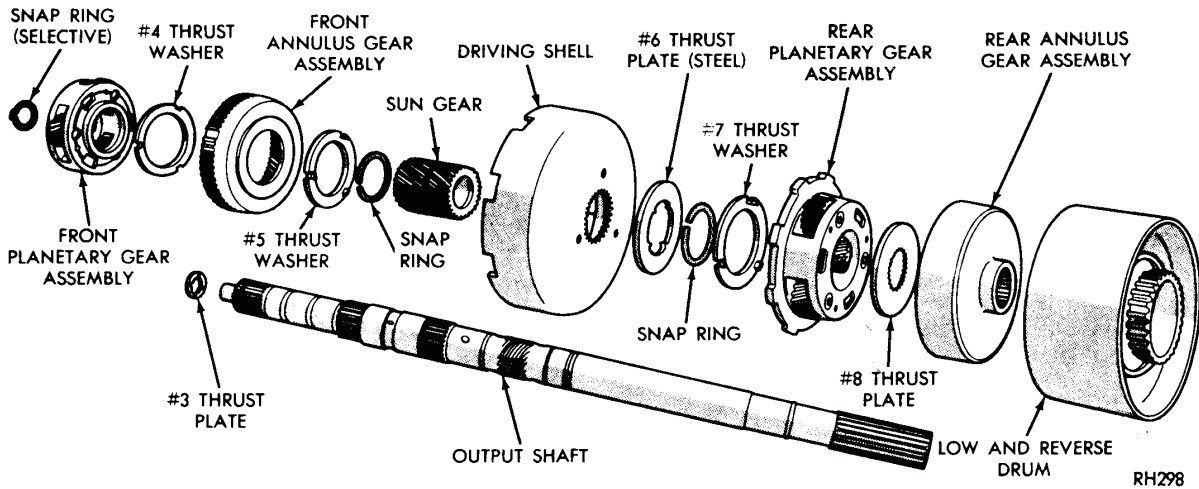

Fig. 34—Planetary Gear Train and Output Shaft (A-727)
PLANETARY GEAR TRAIN—A-727 (Fig. 34)
(1) Remove #3 thrust plate from forward end of output shaft (Fig. 34).
(2) Remove selective snap ring from forward end of output shaft, then slide front planetary assembly off the shaft.
(3) Slide front annulus gear off planetary gear assembly. Remove #4 thrust washer from rear side of planetary gear assembly.
(4) Slide sun gear, driving shell, and rear planetary assembly off output shaft.
(5) Lift sun gear and driving shell off rear planetary gear assembly. Remove #5 thrust washer from inside the driving shell. Remove snap ring and #6 thrust plate from sun gear (rear side of driving shell) and slide sun gear out of the shell. Remove front snap ring from sun gear if necessary. Note that front end of sun gear is longer than rear.
(6) Remove #7 thrust washer from forward side of rear planetary gear assembly, remove planetary gear set and #8 thrust plate from rear annulus gear.
Refer to Figure 34 for parts identification.